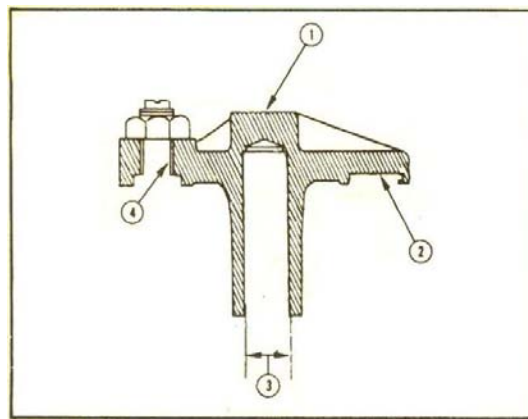

Fig. 2-9, Crosshead wear points
4. Measure the stem inside diameter (3, Fig. 2-9). Use a small bore gauge set at 0.4402 inch [11.181 mm]. The gauge should not fit into the bore at this setting.
6. Visually check for wear on the rocker lever (1) and valve stem contact surface (2). Check the adjusting screw and crosshead threads (4) for wear or distortion.